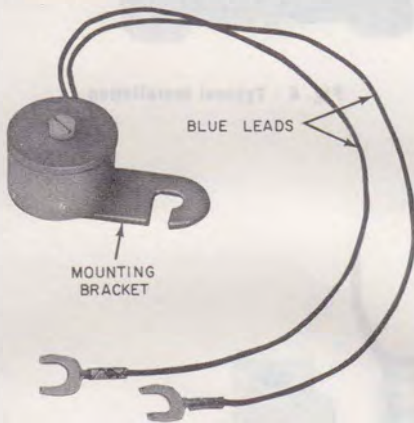

Fig. 1—KS-20419L1 Buzzer
**2.16** The miniature KS-20419L1 buzzer (Fig. 1) is 3/4-inch in diameter, 1/2-inch thick, and is equipped with two spade-tipped leads 7-1/2 inches long.